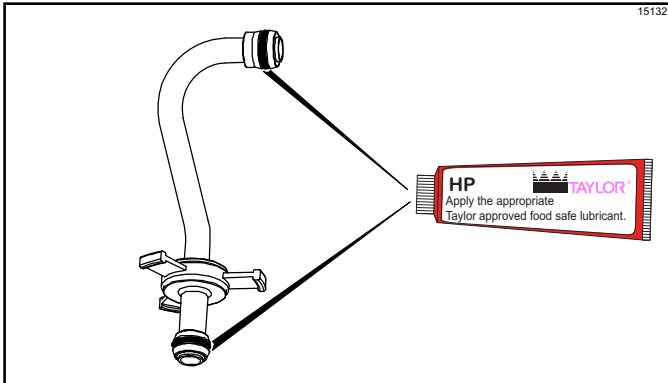

Figure 6-34
11. Install one red O-ring on each end of the mix feed tube and thoroughly lubricate. (See Figure 6-34.)